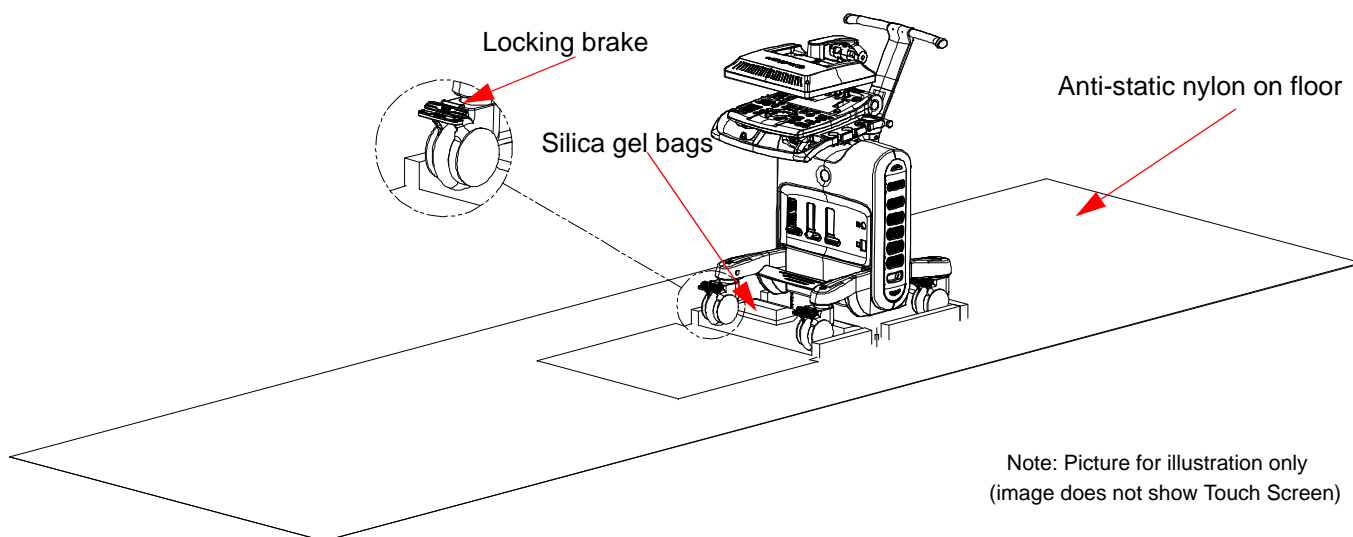

Figure 3-9 Locking Wheel Brake
- 11.) Remove the two silica gel bags (Figure 3-9).